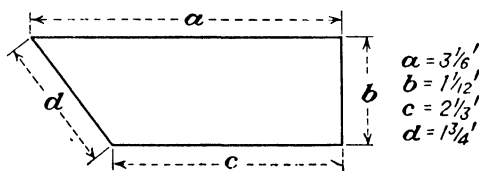

Fig. 54.
7. Find the perimeter of the figure in Fig. 54.